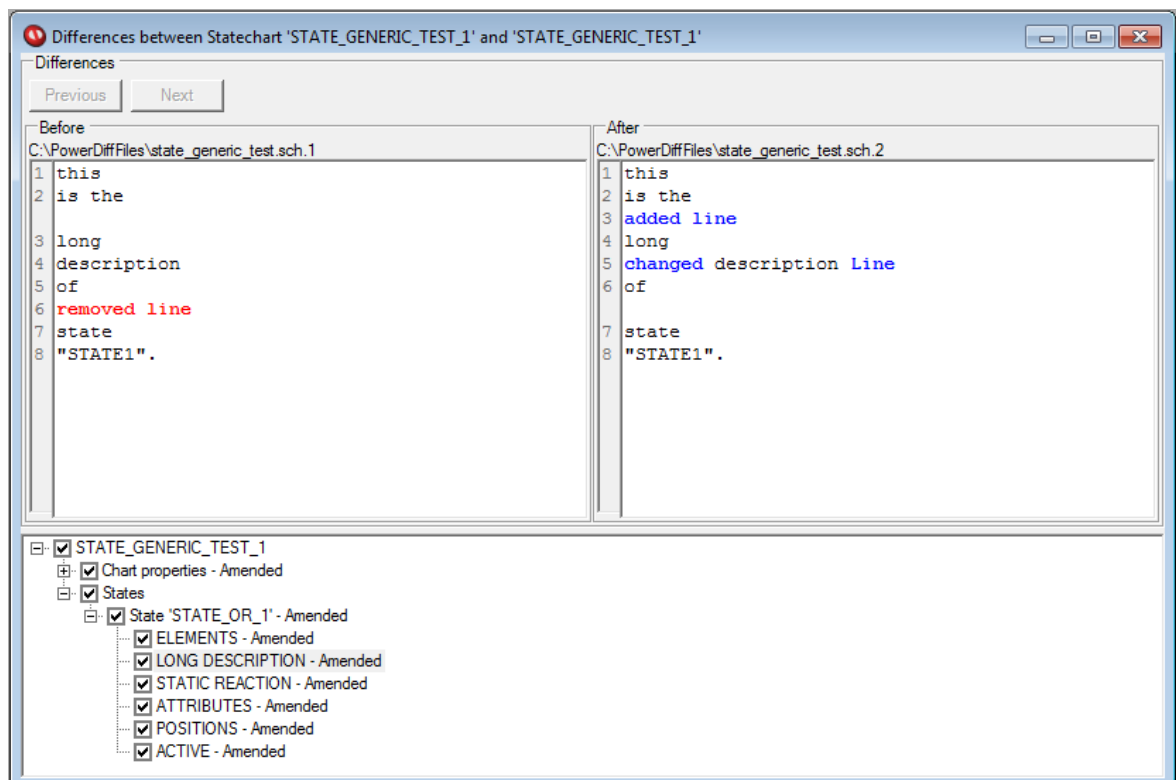

Figure 22: Detail view with textual differences
- Textual differences (refer Figure 22)
The example shown in Figure 22 indicates that the long description of a state was changed. The long description text has been selected to contain examples for changes detected by PowerDiff. There are added lines, added words within lines, changed and removed lines. All these changes can easily be navigated by using the “Next” and “Previous” button above the